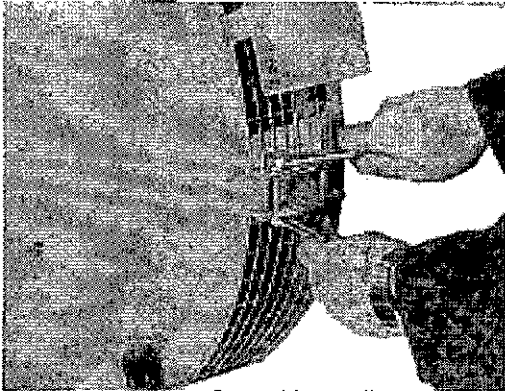

Figure 6-24
3. If the screen assembly is still mounted, remove bolts securing the screen assembly to the drive end bracket or the SAE adapter and remove the screen assembly. (Figure 6-24.) (NOTE: Do not remove the drip cover from the screen assembly if so equipped.)